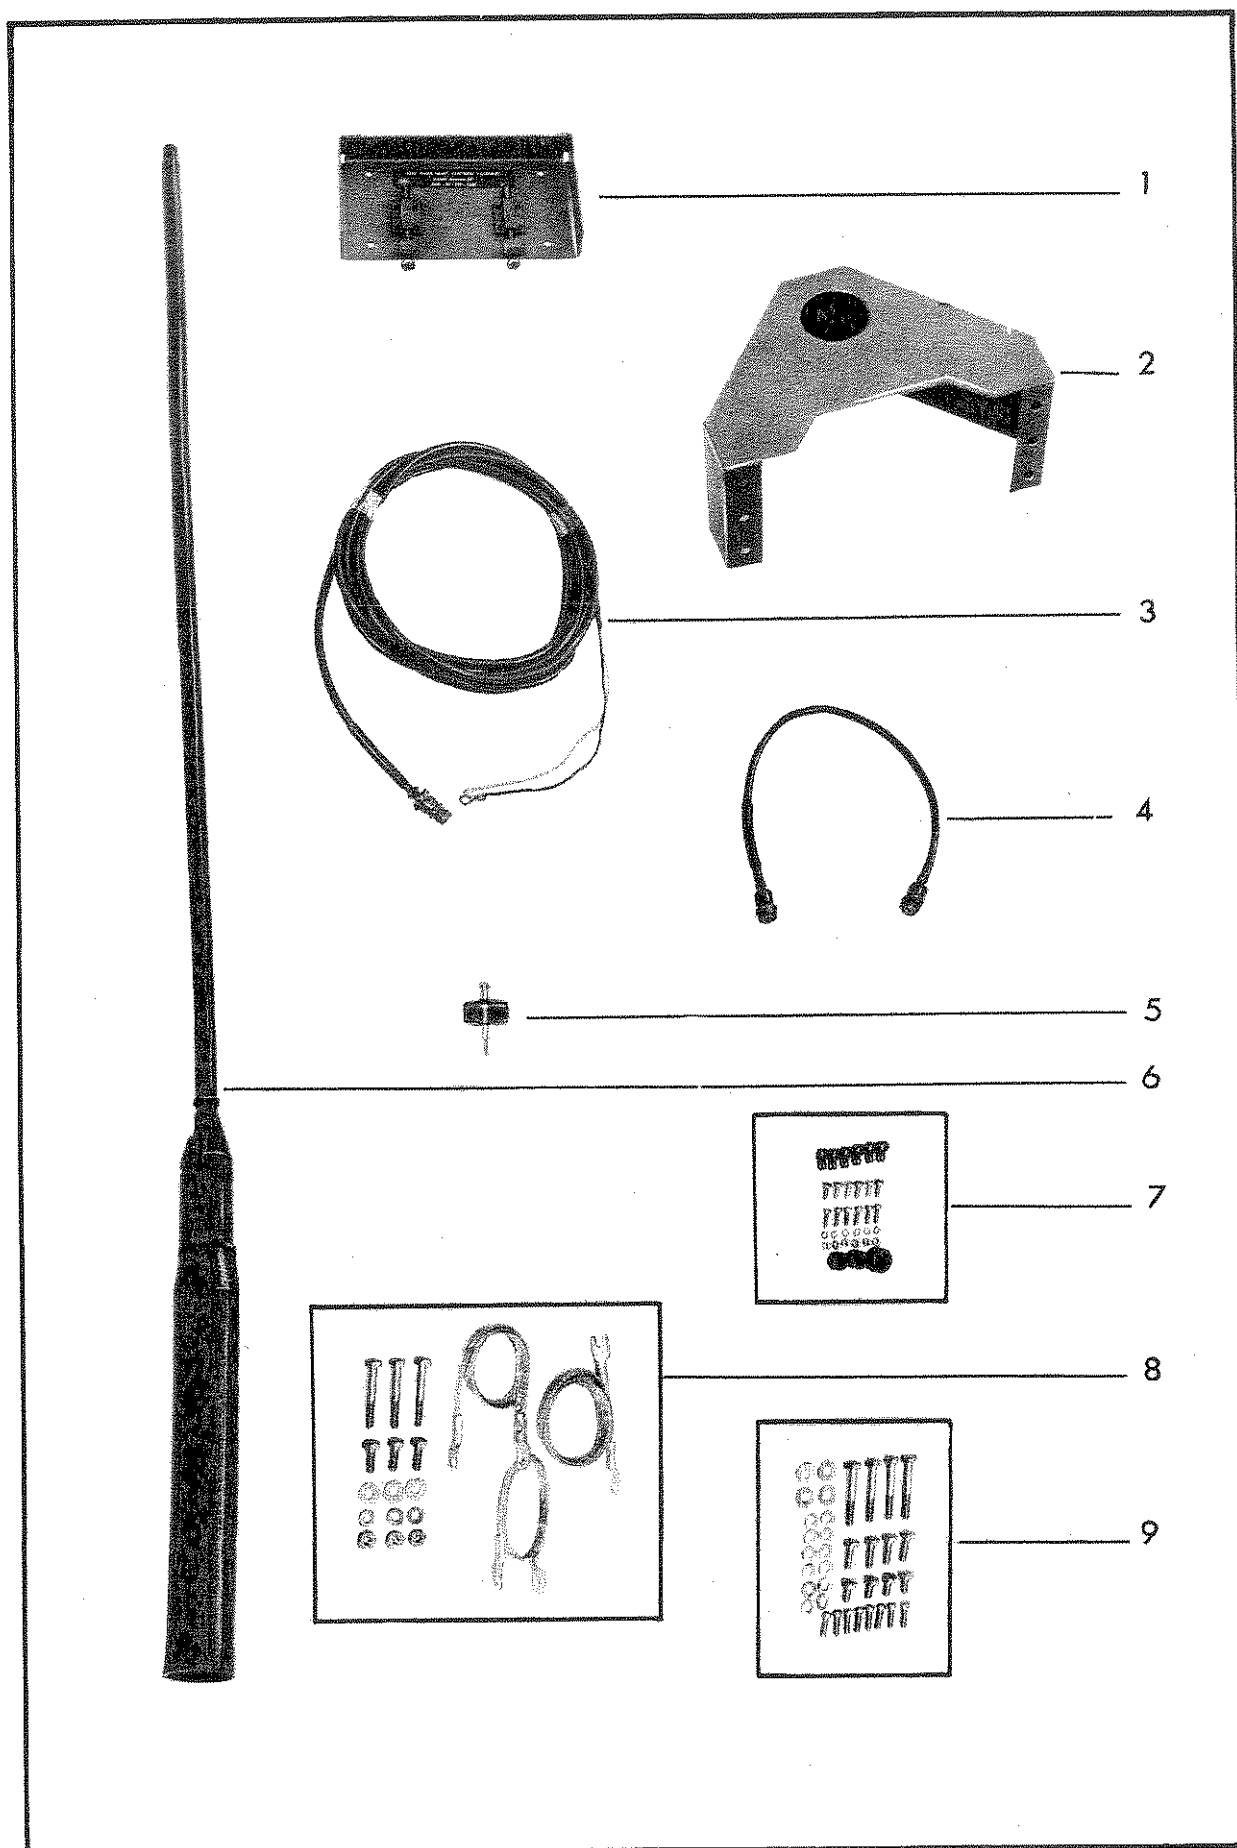

FIG 23
50. Base, Shock Mount, Electrical Equipment, MT-F4. (Fig 23, Item 1). This is a rectangular sheet metal base with flanges turned up at the sides and rear. It is screwed to the top of the Base, MT-F2 (para 105). The Coupler Antenna, CU-F2 is located on the base by two spigots at the rear and secured by two screw clamps at the front.
51. Base, Antenna, AB 243/C. (Fig 23, Item 2). This mild steel bracket is provided to mount the Mast Base, AB 652/VR. It is secured to a vertical surface of the vehicle or watercraft in which the station is being installed. The antenna support of the mast base is passed through the large hole in the bracket and secured with the plastic insulating pieces (refer para 109). In some cases holes may be drilled in the metalwork of some vehicles to mount the mast base and the bracket will not be required for the installation.
52. Cable Assembly, Special Purpose, Electrical, Branched CX-F8. (Fig 23, Item 3). This assembly is approximately 4.5 m long. It is fitted with a terminal lug on each of the branched ends and a two pin plug at the other end. It is used to make a connection between the power source and the DC IN socket of the Power Supply, PP-F1.
53. Cable Assembly, Special Purpose, Electrical, CX-F7. (Fig 23, Item 4). This assembly is approximately 46 cm long and is fitted with a three pin plug at each end. It is used to make a connection between the DC-OUT socket of the Power Supply, PP-F1 and the EXT-PWR socket of the receiver transmitter.
54. Capacitor, Fixed, Ceramic, Dielectric, Modified. (Fig 23, Item 5). This is a 1000 pF, 20 000 V dc Wkg capacitor modified by the addition of a pin at one end which is suitable for insertion in the terminal on the bottom of the Mast Base, AB 652/VR. The cable lug on the wire electrical (para 111) is secured to the other end of the capacitor with a screw. The capacitor provides suitable protection to the Radio Set, GRC-F2 in the event of contact of the antenna with overhead power lines.
55. Cover Antenna. (Fig 23, Item 6). This safety cover is a flexible plastic sheath which fits over the top portion of the Mast Base, AB 652/VR and the lower Antenna Element, MS-116A.
56. Cable Support Kit, MK-F4. (Fig 23, Item 7). This kit contains the screws, nuts, cable clips and grommets required to install the Cable Assembly Special Purpose Electrical, Branched, CX-F8.
57. Earthing Kit, MK-F3. (Fig 23, Item 8). This kit contains the necessary earth straps and fixing hardware to make a good earth connection between the Coupler, Antenna, CU-F2 and the vehicle chassis.
58. Hardware Kit, Electronic Equipment, MK-F1. (Fig 23, Item 9). This kit contains the hardware necessary for the assembly and installation in the vehicle of the three bases shock mount (refer para 104 to 107).